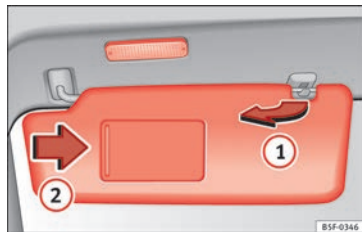

Fig. 141 Sun visor
• The sun visor can be pulled out of its mounting and turned towards the door »» Fig. 141 ①.
There may be a vanity mirror, with a cover, on the rear of the sun visor. When the cover is opened »» Fig. 141 ② a light comes on.